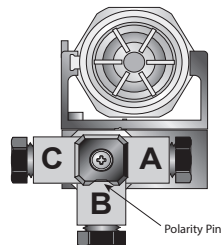

Figure 15: Polarity pin
4. Determine which direction the body of the connector should face. See *Figure 15*.